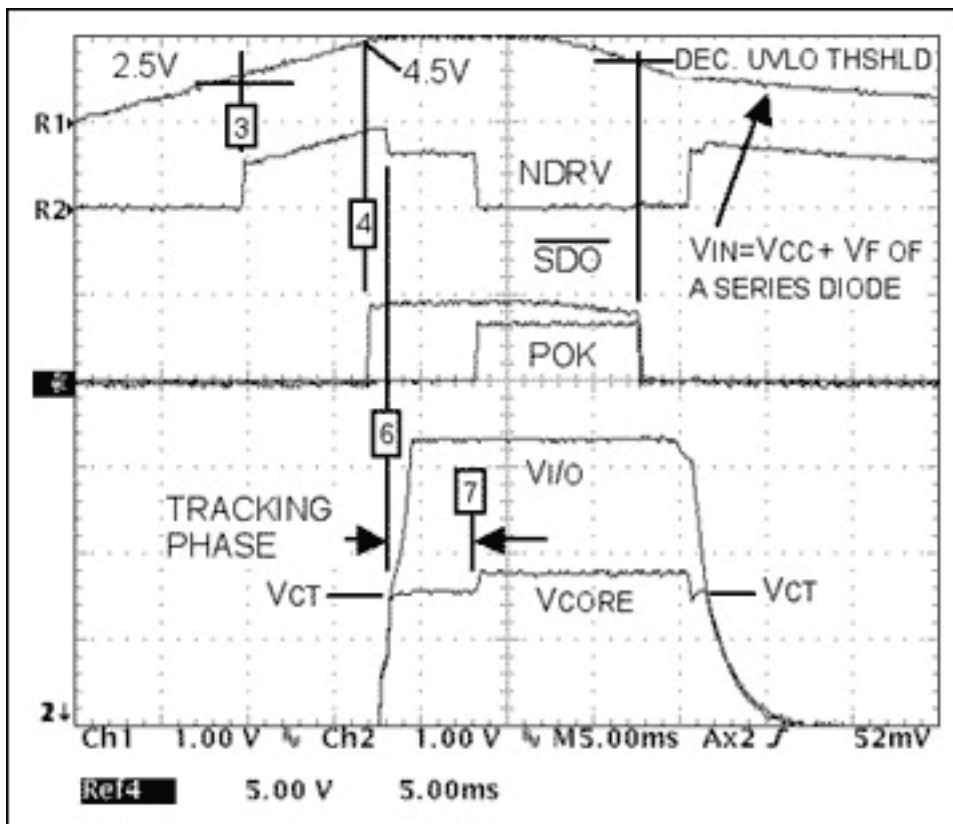

Figure 4. Startup/shutdown operation, $V_{I/O}$ enable precedes V_{CORE} enable.
1. Startup operation is initiated when V_{CC} is applied (either ramped or stepped up from zero). Refer to **Figure 4**.
During normal operation, the controller continually monitors the CORE, I/O and CORE_FB voltages. If V_{CORE} drops to the core regulation voltage set by R1/R2 (perhaps due to an unexpected high-current load or a short), NDRV will be driven high to re-assert the regulation mode. Refer to Figure 4.